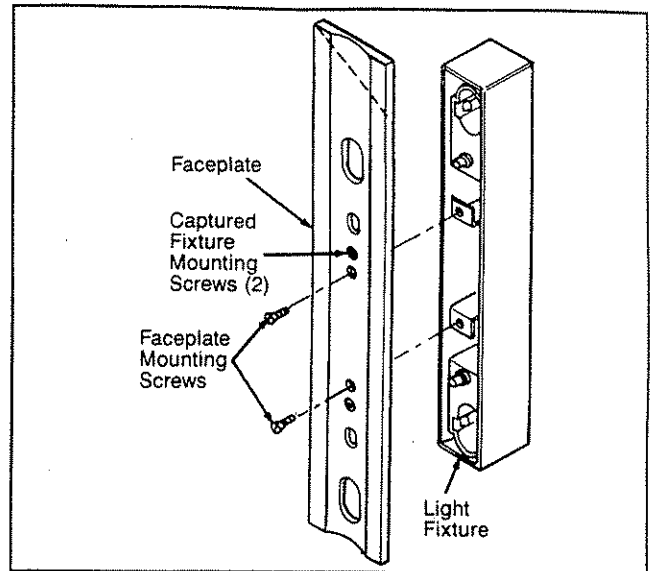

Figure 6.
1. Remove the two screws attaching the faceplate to the light fixture. See Figure 6. Leave the 2 captured fixture mounting screws in the faceplate.
4. Install faceplate on light fixture and attach with 2 screws. See Figure 6.